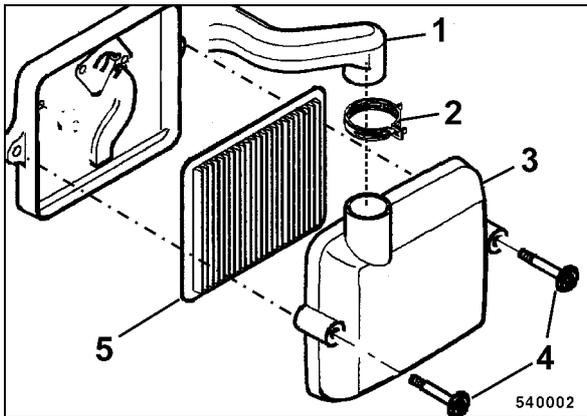

Fig. 67
- Loosen hose clamp (2) (Fig. 67) and pull the air supply hose (1) off the air filter housing.
- Unscrew two fastening screws (4) and remove cover (3) from the air filter housing.
- Pull the dry air filter cartridge (5) out of the housing.